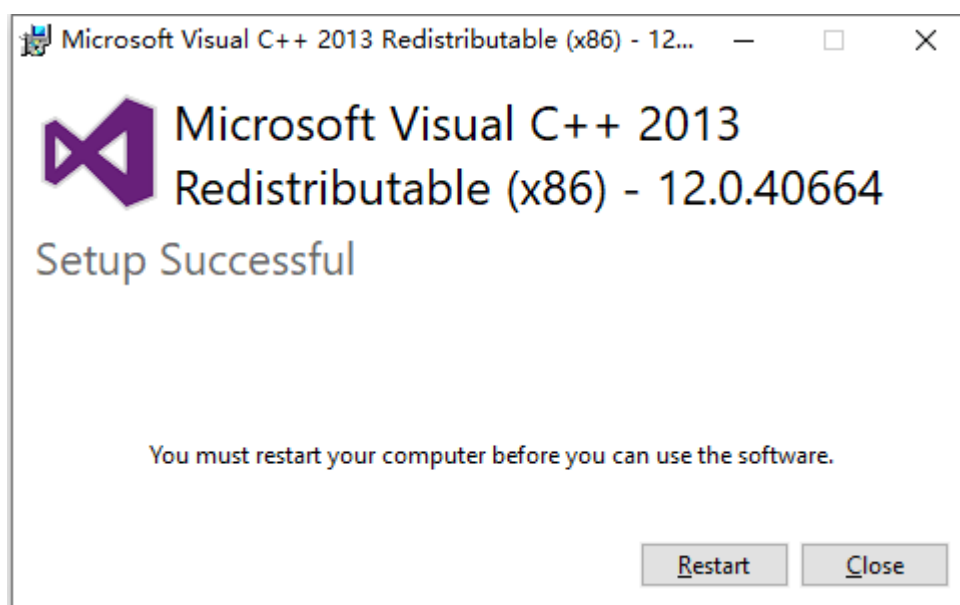

Figure 2.2-8
(10) When the runtime installation is complete, the dialog box for completing the installation will pop up. Click Finish to complete the installation of the runtime library. As shown in Figure 2.2-8: